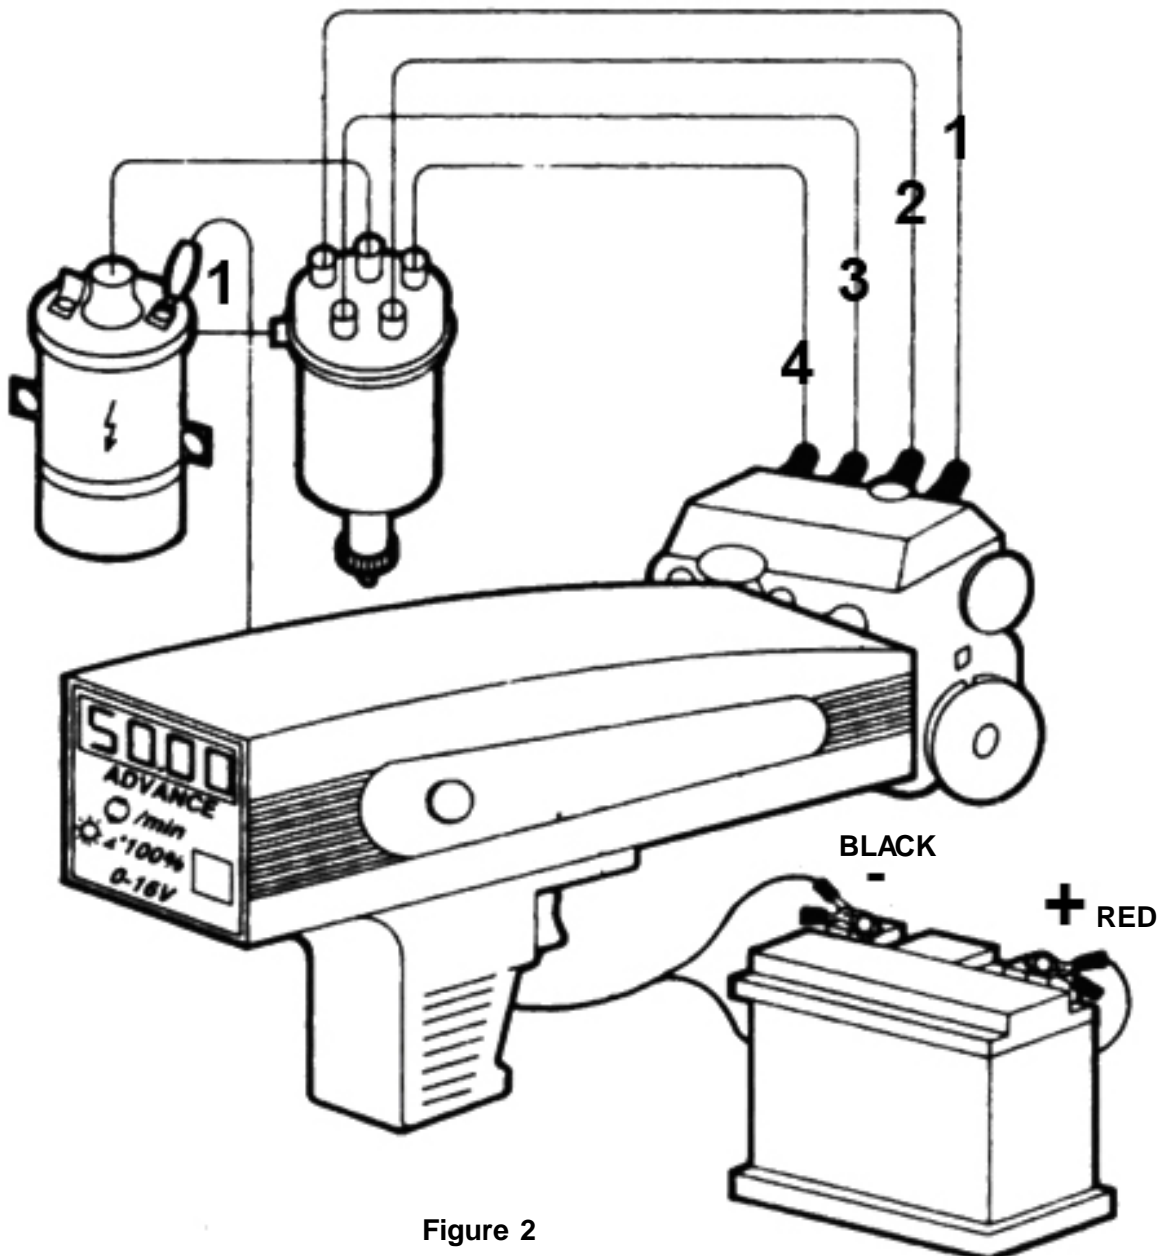

Figure 2
1. Press the tact switch to light the Dwell indicator. (See figure 2)